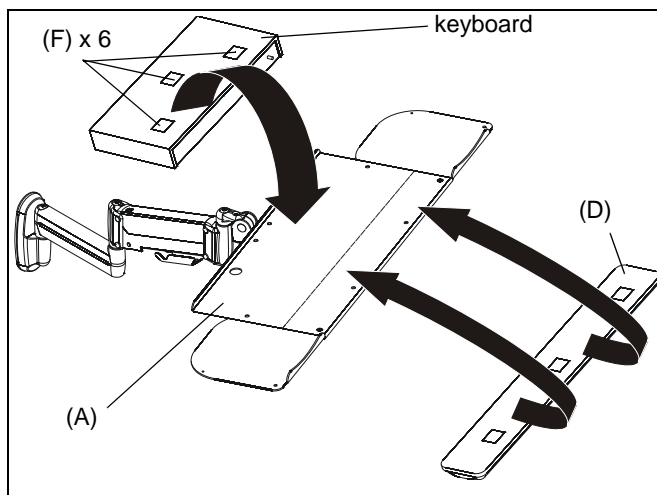

Figure 4
1. Remove adhesive backing from one side of hook and loop connectors (F).
2. Place hook and loop connectors (F) on bottom of the keyboard and bottom of wrist pad approximately as shown. (See Figure 4)
3. Remove the adhesive backing from the other side of the hook and loop connectors (F).
4. Firmly place keyboard on keyboard tray making sure to leave room for the wrist pad if necessary. (See Figure 4)
5. Firmly place wrist pad (D) on keyboard tray in front of the keyboard. (See Figure 4)